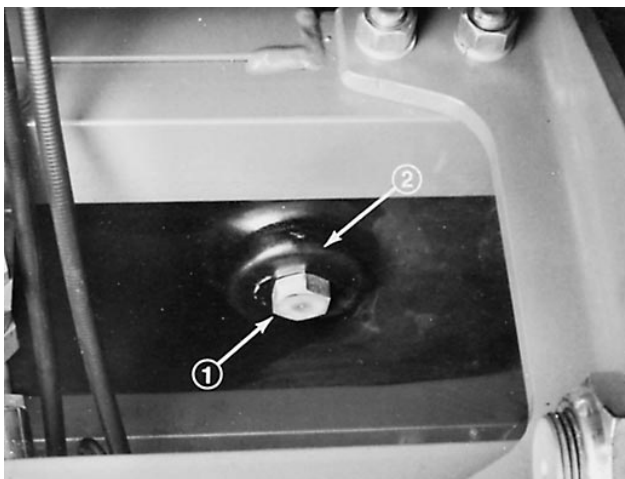

Figure 47
2. Locate plugs at right rear behind front wheel, at rear center and front center of reservoir (Fig. 47).
1. Place the drain pan under the reservoir. In turn, remove all three (3) drain plugs and let the oil drain into pan (Fig. 47).